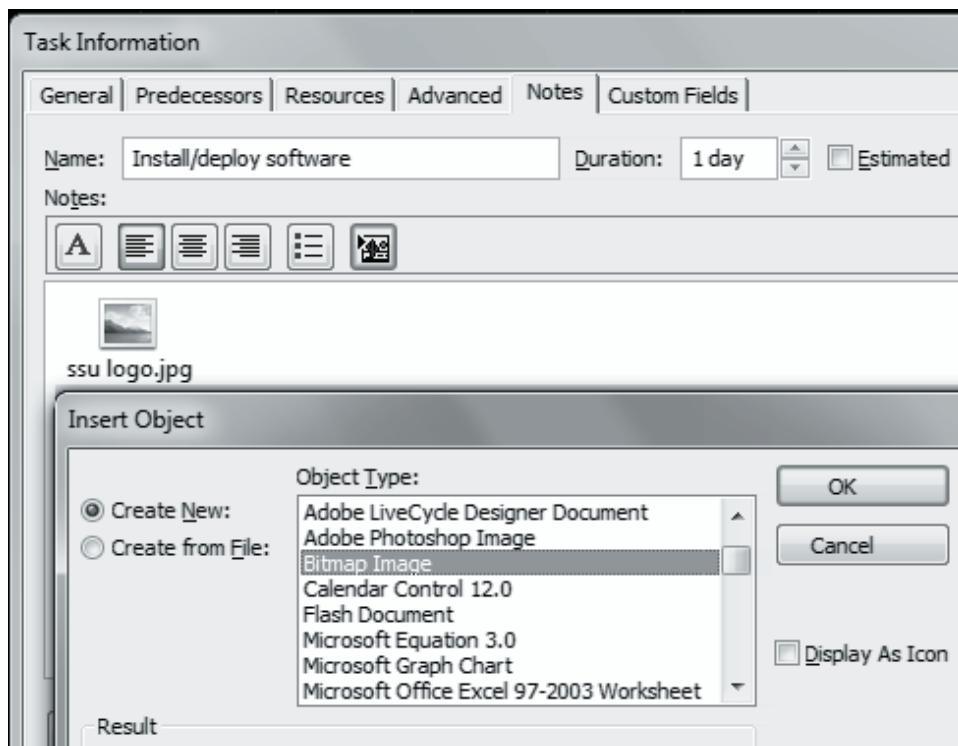

Figure 13.14: Inserting Graphics
3. Click **Insert Object** icon and select the **Object Type** from the list as shown in figure 13.14.